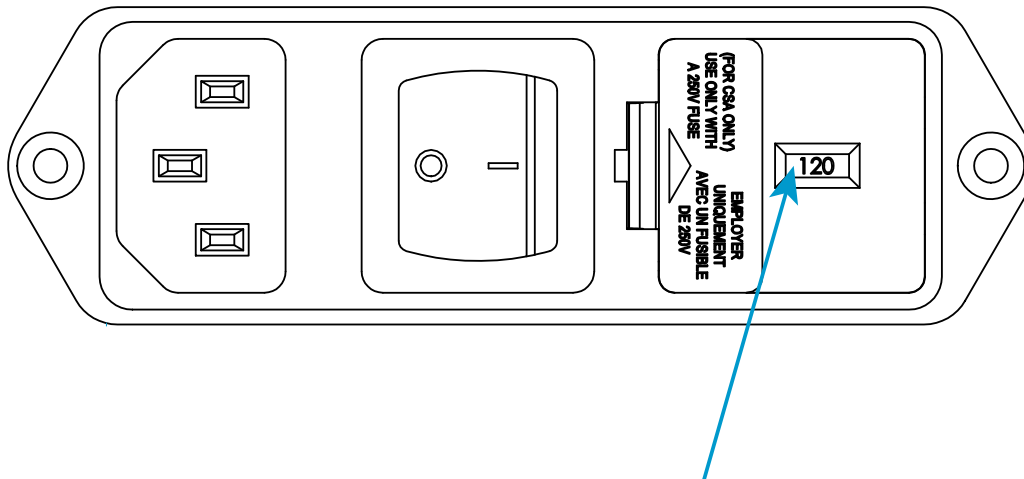

Figure 4. Power input connector with voltage setting
2. Inspect the power input connector and refer to Figure 4 on page 38. The indicated voltage in Figure 4 is 120V.
7. Re-install the fuse holder into the connector. Ensure that the indicator pin now indicates the correct input voltage. See Figure 4 on page 38 for reference.